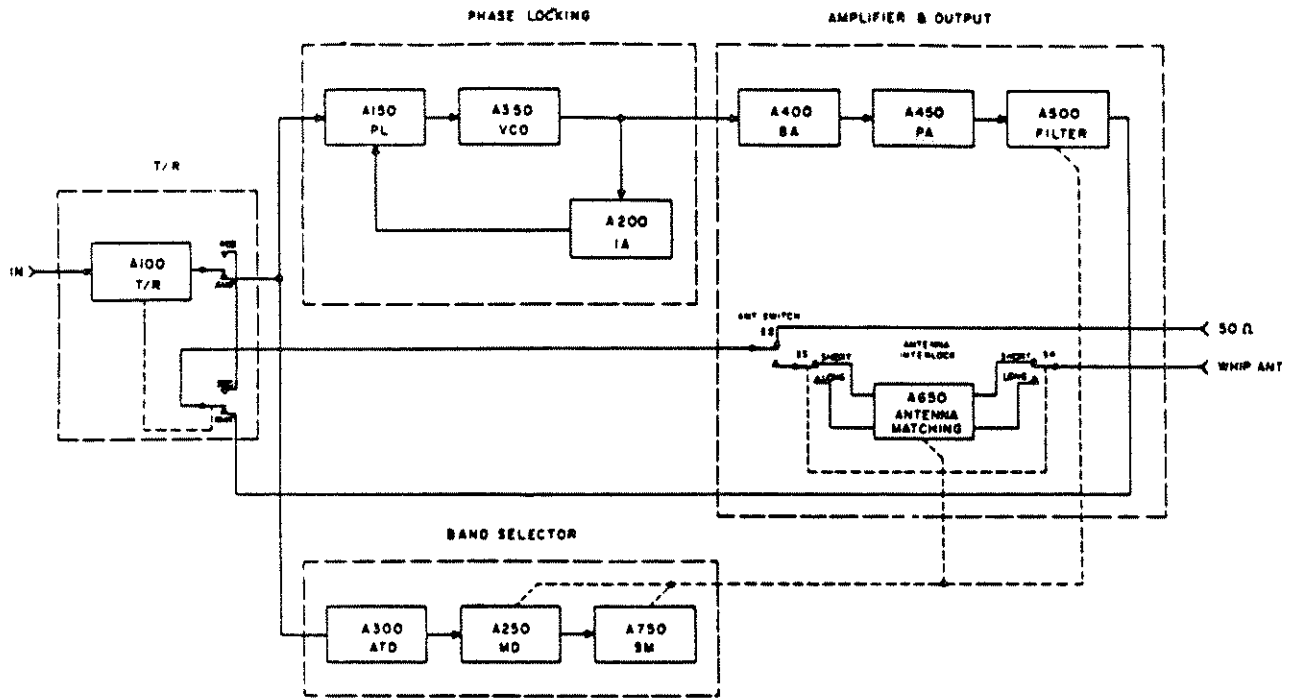

Figure 3-1. Functional Block Diagram
3-1 BLOCK DIAGRAM ANALYSIS. – The AM-4477 is divided into the four basic functional sections described below as shown in the block diagram of figure 3-1.
(1) **General (Fig. 3-1)** – The Phase Locking (PL) circuit consists of a Voltage Controlled Oscillator (VCO) and an Isolation Amplifier (IA). The VCO operates from 26 to 76 MHz and is controlled by a dc voltage. Phase locking is accomplished by comparing the VCO output with the driving signal in the phase detector of the PL circuit. If a phase deviation exists, a dc correction voltage is developed at the input to the VCO. Phase locking is sufficiently fast to follow the frequency modulation of the driving signal, thus the VCO output assumes the same frequency and modulation as the driving signal. The amplified VCO signal produces the output of the AM-4477. The phase locking current prevents spurious frequencies present in the RF driving signal from reaching the AM-4477 output.